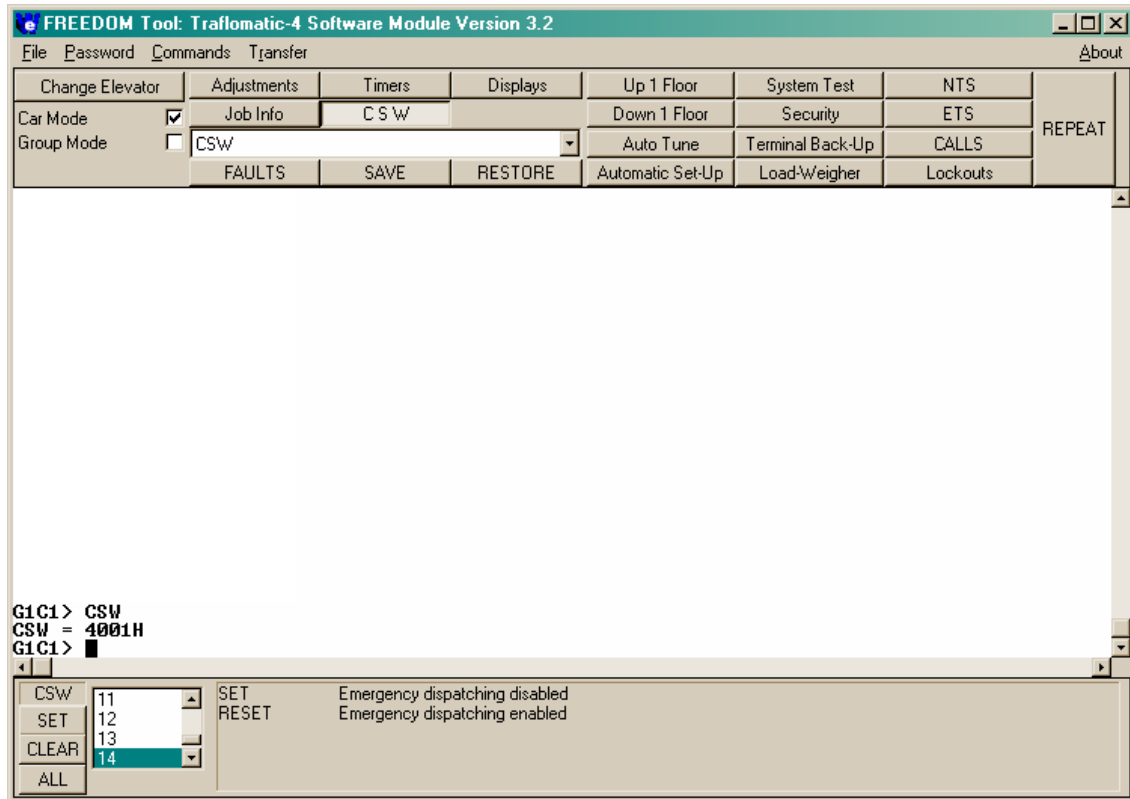

Figure 56
**Timers:** Both the Group and Car Modes of the Traflomatic-III and IV elevator control systems have timer adjustments. Timer adjustments are any adjustment that can be associated with a time. This can include how long a car will remain idle before taking itself out of service, how long the doors stay open before closing, among many other things. As with Adjustments and Job Info, **Timers** will have information displayed for each individual timer in the Definition Bar of the FREEDOM Tool. Please refer to Figure 56.